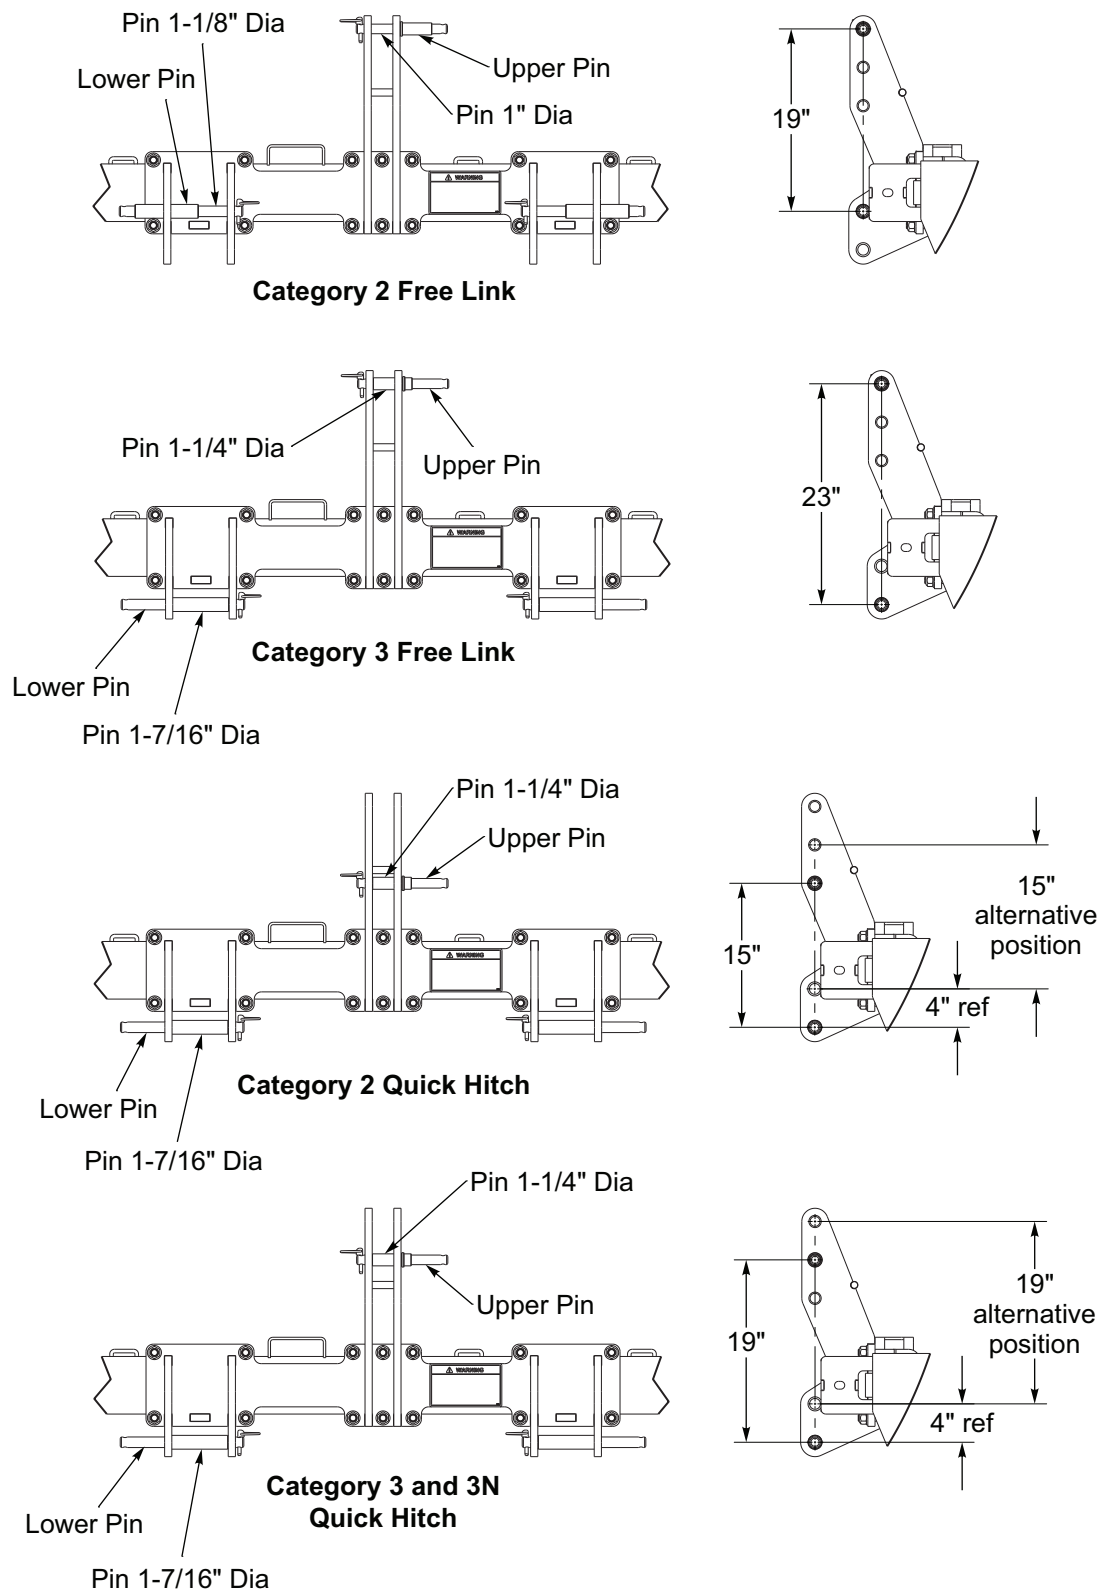

Figure 3-1: 3-PT Hitch Categories
1. The Brillion Till 'N Seed is designed to be pulled with Category 2 or 3 Free Link, and Category 2, 3N, or 3 Quick Hitch Coupler. **See Figure 3-1.** Be sure Tractor's Hitch Capacity is not exceeded by the Laden Mass of the Seeder. **Refer to Tractor Operator's Manual.**
6. Attach the Till 'N Seed to the Tractor's 3-PT Free Link or Quick Hitch Coupler using the appropriate size pins and bushings. Be sure to use the hardware provided and is in good working order. **See Figure 3-1.**